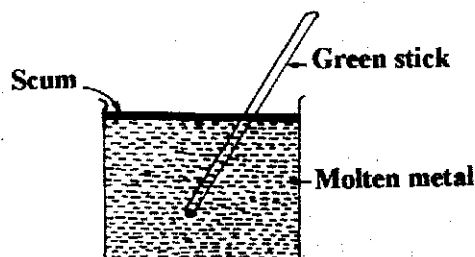

Fig. 23.6: Poling
- (ii) **Poling:** Poling involves stirring the impure molten metal with green logs or bamboo sticks as shown in Fig. 23.6. The hydrocarbons contained in the pole reduce any metal oxide present as impurity. These oxidised impurities escape either as gas or form scum over molten metal. Copper and tin are refined by this method.